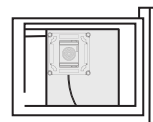

Figure 4
- Fix the other end of the safety rope on other objects in the room to ensure that the tightening will not be dropped or fall off. (Figure 4)